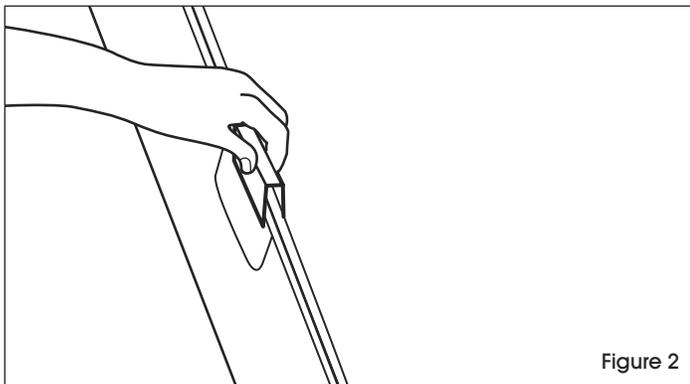

Figure 2
2. Place two workstations side by side. Position the connector over the top edges of the workstations. (See Figure 2)
3. Once the connector is positioned over the top edges of both workstations, hammer down the connector using a plastic or rubber mallet. (See Figures 2 and 3)